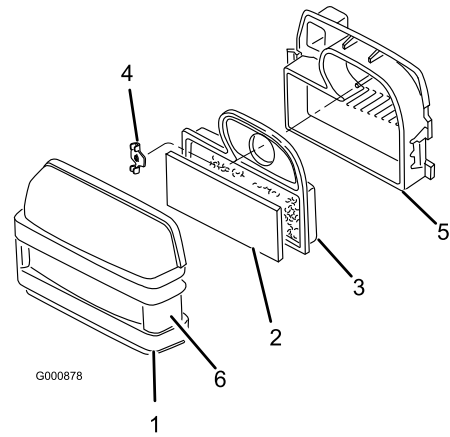

Figure 27
3. Clean around the air cleaner to prevent dirt from getting into the engine and causing damage. Unlatch the two side latches and remove the air cleaner cover (Figure 27).
4. Carefully remove the foam element from the paper element (Figure 27).
5. Unscrew the wing nut and remove the paper element (Figure 27).
1. Carefully slide the foam element onto the paper air cleaner element (Figure 27).
2. Place the air cleaner assembly onto the air cleaner base and install the wing nut (Figure 27).
3. Install the air cleaner cover and secure the latches (Figure 27).